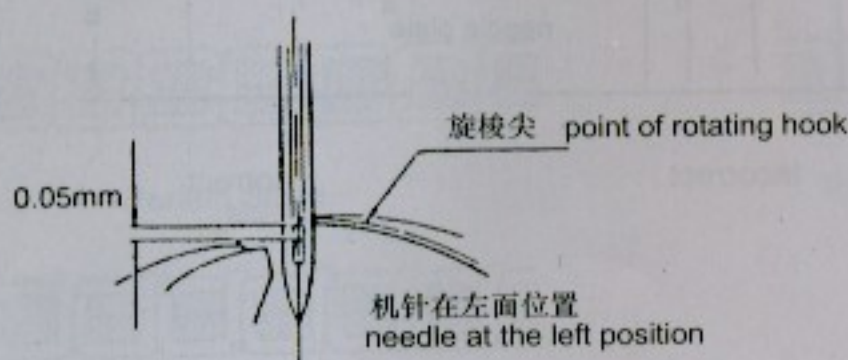

Figure 22
(1) Set the width of swaying needle to the maximum and turn the belt pulley toward the operator manually to make the needle stand at the left position and the shuttle point at the centre of the needle. At the moment the length from the needle hole till the shuttle point should be 0~0.5mm (see Figure 22)
(2) If the height of needle staff is not in the correct position, it is necessary to remove the panel, release the connecting screw on the needle staff, and then raise or lower the staff to the standard height. After that, re-tighten the screw.